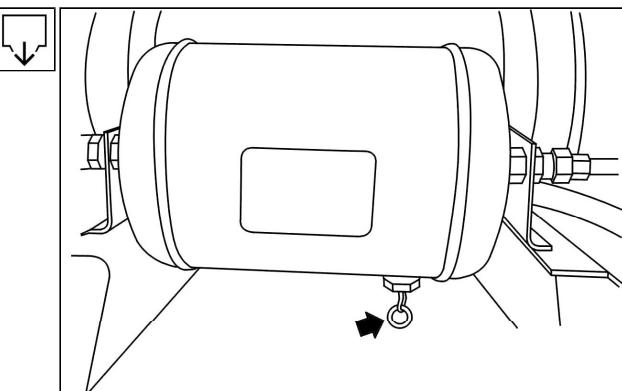

Fig. 9.18 Drain valve location
7. Check the hand-operated drain valves on air reservoirs for function so that you deflect the lever (See Fig. 9.18).